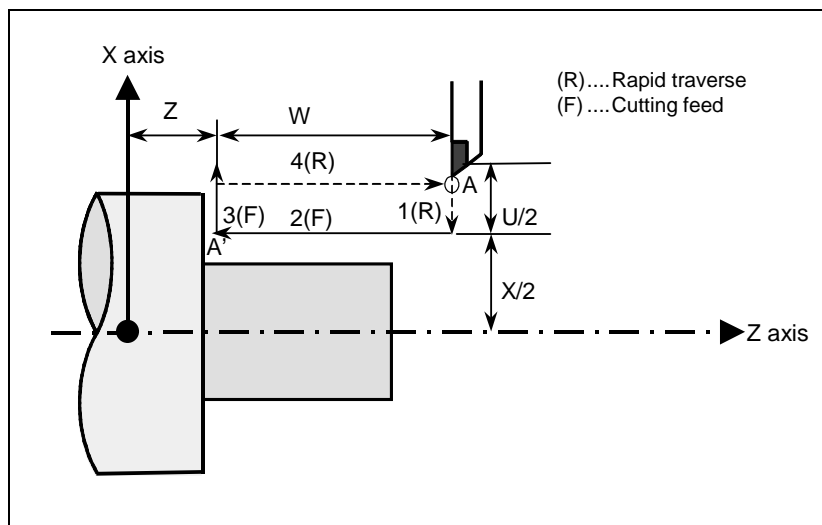

Fig. 6.3.1.1 (a) Straight cutting cycle
- X_,Z_ : Coordinates of the cutting end point (point A' in the Fig. 6.3.1.1 (a)) in the direction of the length
- U_,W_ : Travel distance to the cutting end point (point A' in the Fig. 6.3.1.1 (a)) in the direction of the length